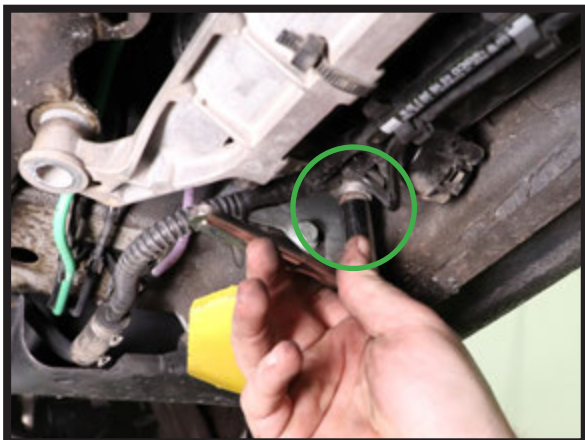

FIGURE 22
6. REINSTALL THE THREE (3) EXTERIOR MOUNT BOLTS AND TIGHTEN TO MANUFACTURER'S SPECIFICATIONS. (FIGURES 22, 23, 24)